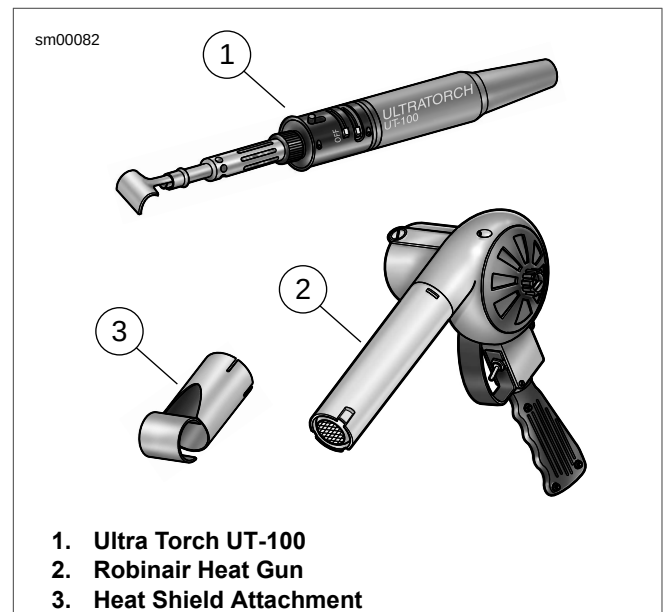

Figure 7-107. Radiant Heating Devices
6. See Figure 7-107. Use ULTRA TORCH UT-100 (Part No. HD-39969) or ROBINAIR HEAT GUN (Part No. HD-25070) with HEAT SHIELD ATTACHMENT (Part No. HD-41183) or equivalent. Uniformly heat the heat shrink tubing to insulate and seal the soldered connections. Apply heat just until the meltable sealant exudes out both ends of tubing and assumes a smooth cylindrical appearance.